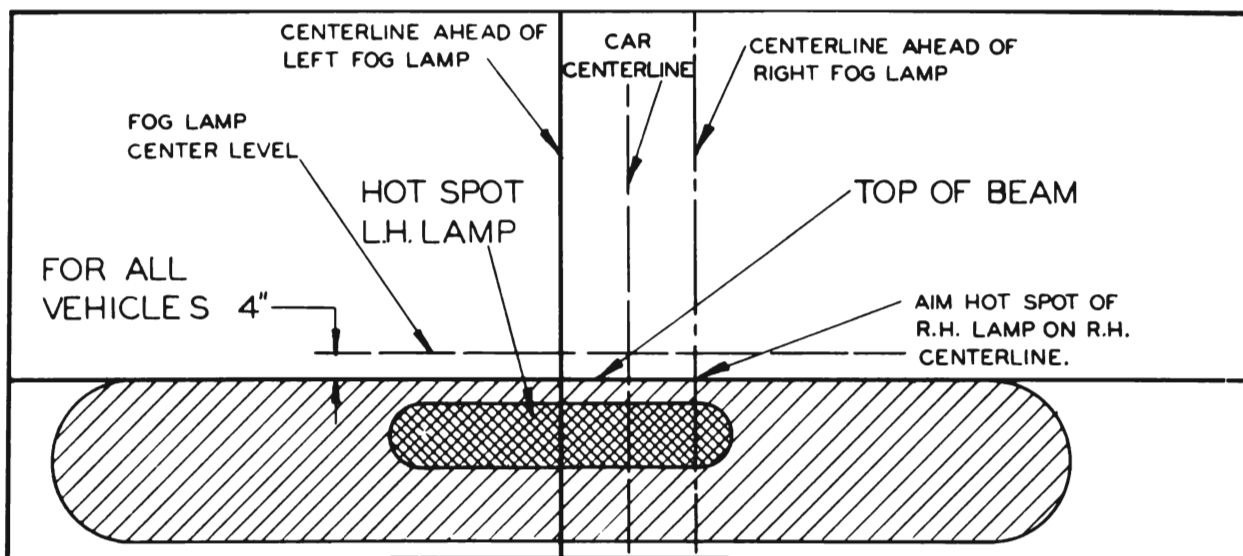

Figure 11-39—Auxiliary Lamp Aiming Chart—Left Hand Lamp Pattern Shown
1. Place car on a level stretch with a light colored surface or aiming screen twenty-five feet (25') ahead. Draw a horizontal line on this surface four inches (4") BELOW the level of the fog lamp center. See figure 11-39.